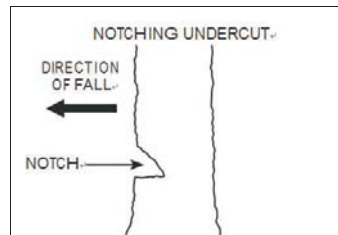

Fig.9
7.3.1 NOTCHING UNDERCUT (FIG.9)